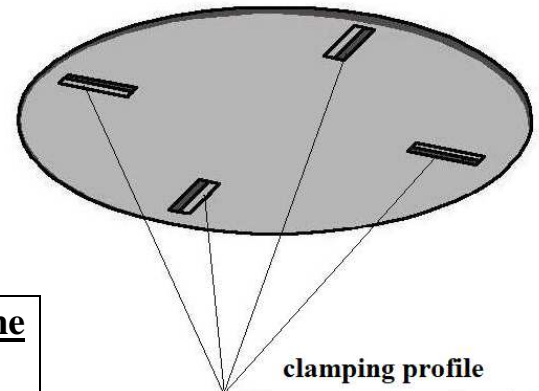

Fig. 5
The machine should be placed on the plates (plate) in such a way that the blades are under the clamping profile (Fig. 5) Then set the angle of the blades according to the height of the clamping profile with the adjustment knob (Fig. 4, item 1).